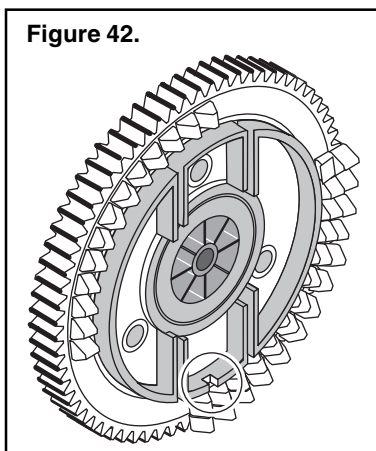

Figure 42.
**NOTE:** The notch on the center disk of the Large Steering Drive Assembly must be down, (as shown in Figure 42), for assembly.